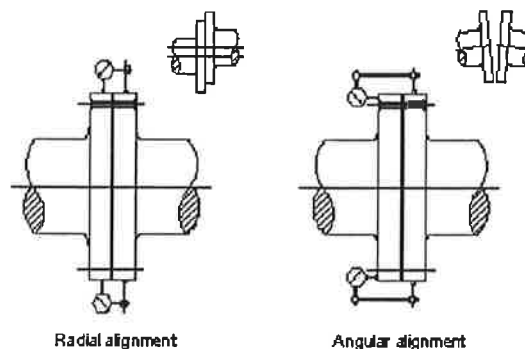

Figure 3-9 Alignment check with gauges
3. Mount the alignment equipment. If gauges are used, it is practical to adjust the dial gauge in such way that approximately half of the scale is available in either direction. Check the rigidity of the gauge brackets in order to eliminate the possibility of sag, see *Figure 3-9 Alignment check with gauges*